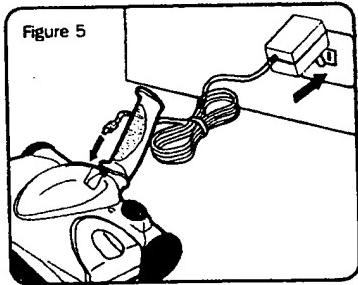

Figure 5
1. Connect the charger plug to the Charging Jack (8) on the back of the vacuum sweeper (fig.5).